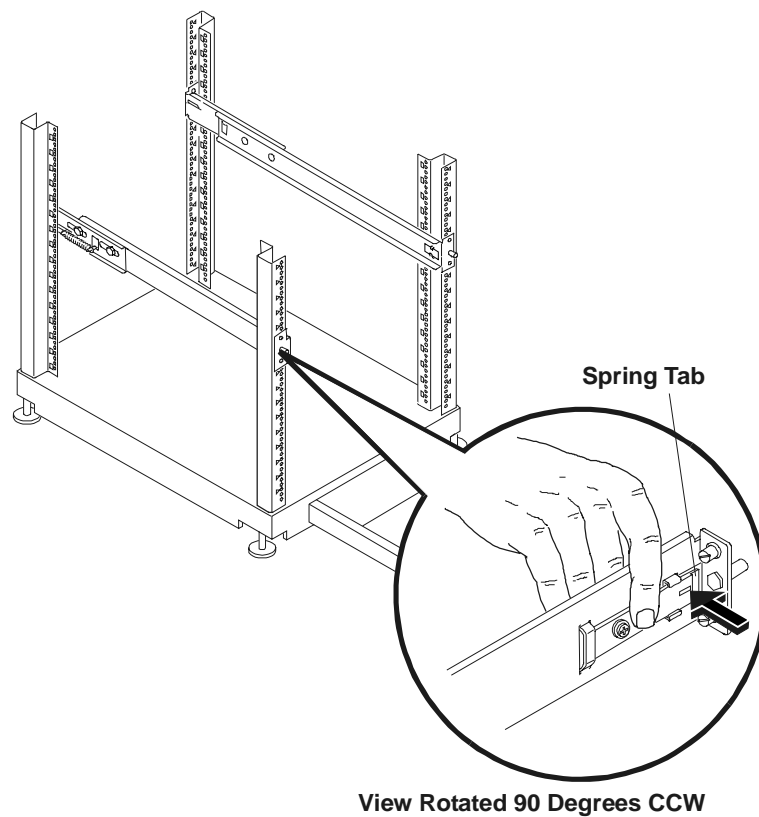

Figure 13-5. Releasing the Outer-Rail Assembly
- a. Place your finger inside the rail at the point shown by the arrow to release the spring tab. See Figure 13-5.
- b. Press in on the spring tab and pull the outer-rail assembly toward you at the front of the rack. See Figure 13-5.